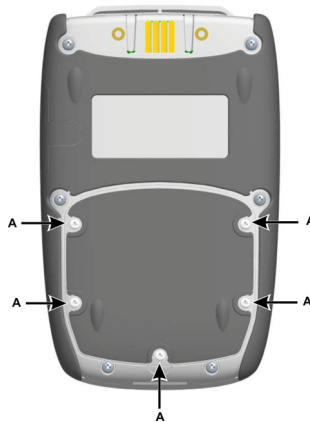

Fig 1 Rear View
1. Remove the five Pozidriv screws (A) (Ref: Fig 1, Rear View).